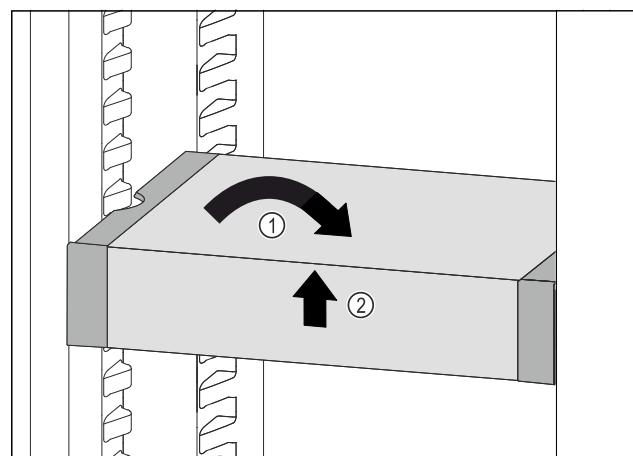

Fig. 128
- Set VarioSafe straight. Fig. 128 (1)
- Lift VarioSafe at the front. Fig. 128 (2)